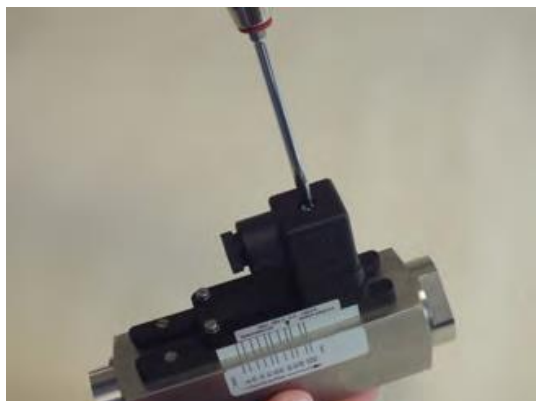

Fig. 71: Loosen female socket
1. ► Loosen the fixing screw of the female socket (Fig. 71) with a flat-bladed screwdriver.